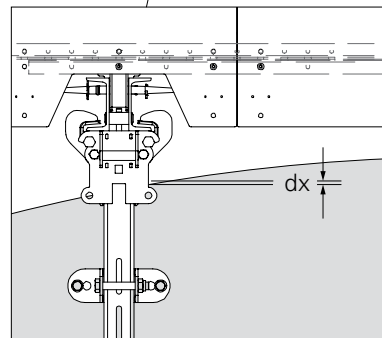

Fig. B4.01a
The lateral adjustability of the Slab Shoe (10) must be guaranteed. Therefore, during the planning phase, ensure that the gap dx between the building edge and the stop plate of the Slab Shoe is min. 10 mm along the whole width of the shoe. (Fig. B4.01a + B4.01b)